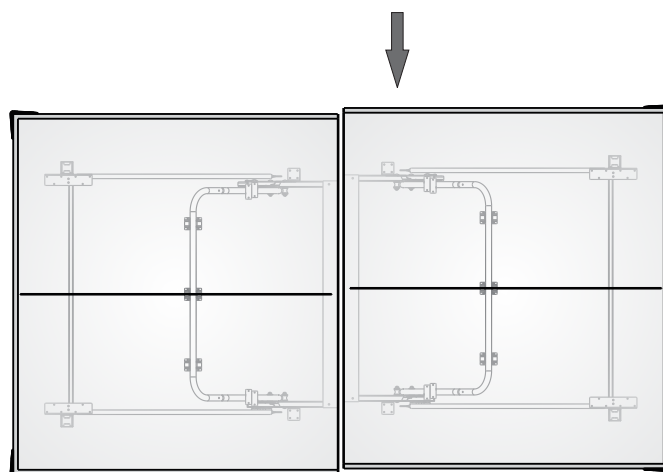

Figure 17
3. With the help of two other adults, push the two table top halves so they are in line with each other and re-tighten the Wing Nuts (#32) as shown in Figure 17.